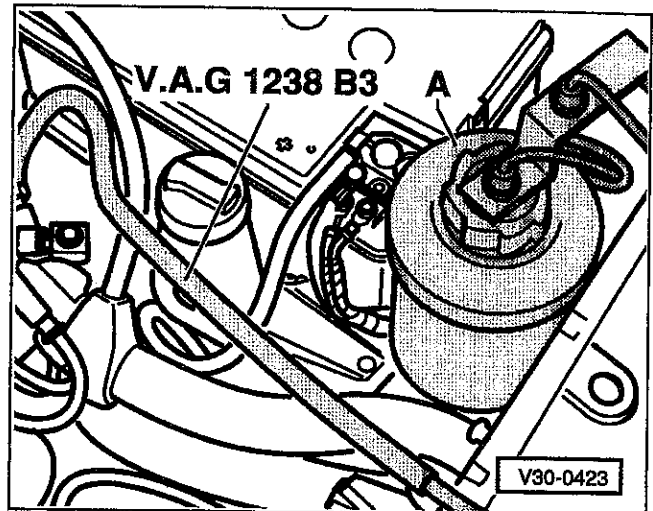

Fig. 12. Brake filling and bleeding unit (A). Note long bleeder hose to slave cylinder (V.A.G.1238 B3).
1. To bleed system, connect 670 mm (26.38 in.) of bleeder hose to pressure hose fitting on collector bottle. See Fig. 12.